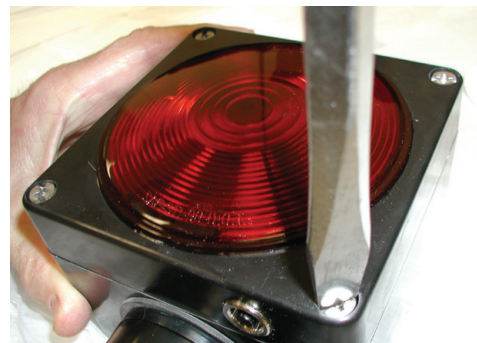

Figure 6: Tightening the screws
- Tighten the four screws evenly to insure a tight gasket seal within the lid (see Figure 6).